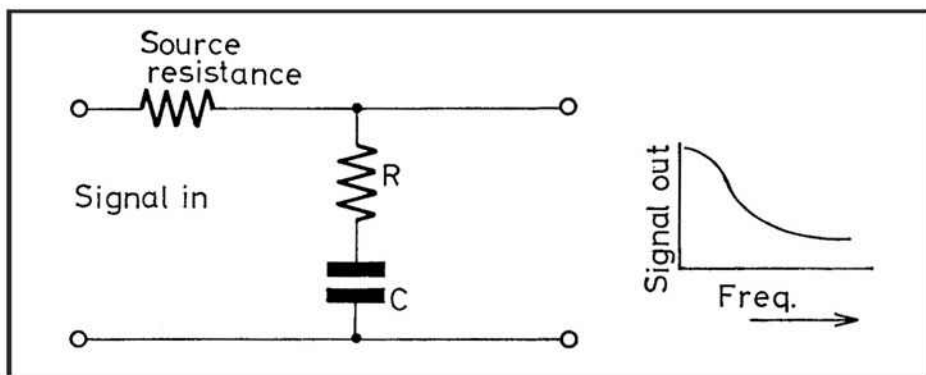

Fig. 5. A simple RC compensating circuit for a tape head.
Equalization is accomplished in most electronic circuits by a resistor (R) and capacitor (C) in various combinations. When two such components are partnered, it is possible to obtain a frequency characteristic which also has a slope of about 6dB/octave. This is because the impedance of the circuit (often looked upon loosely as *ac resistance*) falls as the signal frequency rises. With an RC combination arranged, for instance, as in Fig. 5, the output signal drops in a manner shown by the accompanying curve. This is, indeed, a basic equalizing network, and the curve depicted is almost that required to compensate the